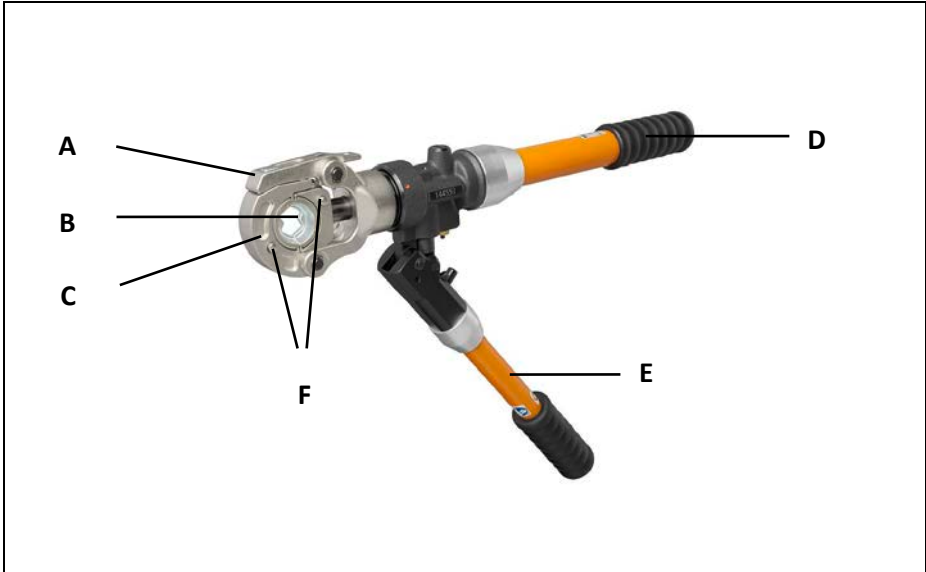

Figure 1 Components
- 2 Turn the grip (see Figure 1 on page 24) into the position for the pressure build-up ( $\Rightarrow$  |  $\Leftarrow$ ).
- 3 Some movements of the pump handle will fix the cable lug/connector (see Figure 1 on page 24).
- 6 In order to open the dies turn the pump handle (see Figure 1 on page 24) into the return position ( $\leq$  |  $\Rightarrow$ ). Therefore, the pump handle needs to be turned left bei  $20^\circ$ . In this position the pump handle is entirely closed. This process activates the oil reflux. Additionally, the piston moves in its start position.